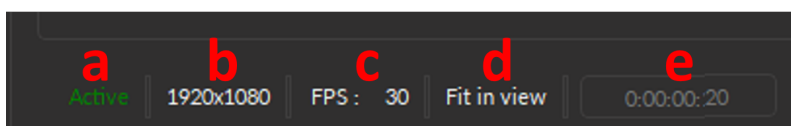

Figure 12.36: Live Monitoring bar
- a) The **Status** (Fig. 12.36, a) displays whether the camera is **Stopped**, **Active** or **Waiting for image**.
- b) The **Resolution** (Fig. 12.36, b) displays the current image size (in pixels x pixels).
- c) The **FSP** (Fig. 12.36, c) displays the current number of frames per second used to record the behavior video.
- d) The **Zoom** (Fig. 12.36, d) displays the current zoom value.
- e) The **Time** (Fig. 12.36, f) displays the amount of time since the camera was turned on in *d:hh:mm:ss*.